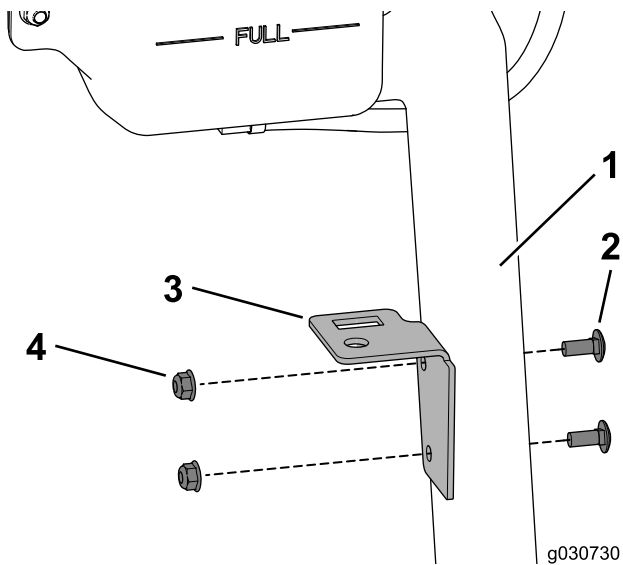

Figure 33
1. Use 2 carriage bolts (5/16 x 3/4 inch) and 2 flange nuts (5/16 inch) to secure the tank plate to the coolant-bottle support (Figure 33)